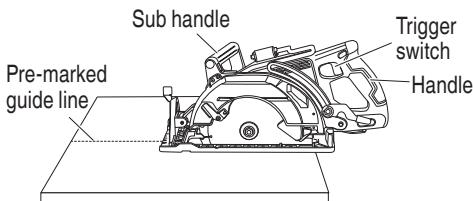

Fig. 29
(3) Ensure that the switch is turned to the ON position before the saw blade comes in contact with the lumber. The switch is turned ON when the trigger switch is squeezed; and OFF when the trigger switch is released. Moving the saw straight at a constant speed will produce optimum cutting. (Fig. 29)